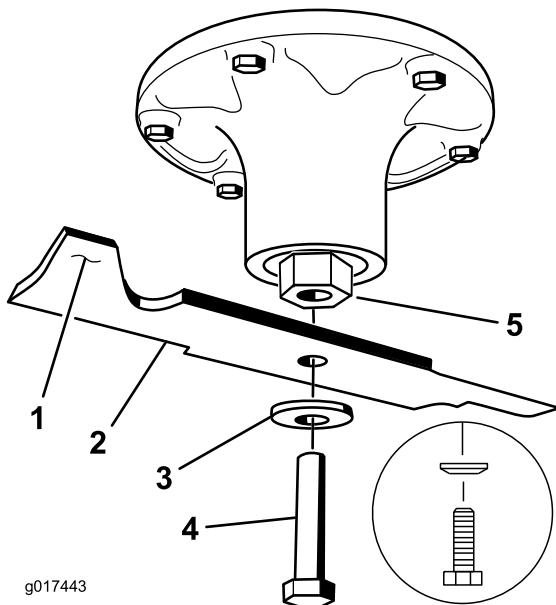

Figure 99
2. Remove the blade bolt, curved washer, and blade from the spindle shaft (Figure 99).
1. Install the blade onto the spindle shaft (Figure 99).
2. Install the curved washer and blade bolt (Figure 99).